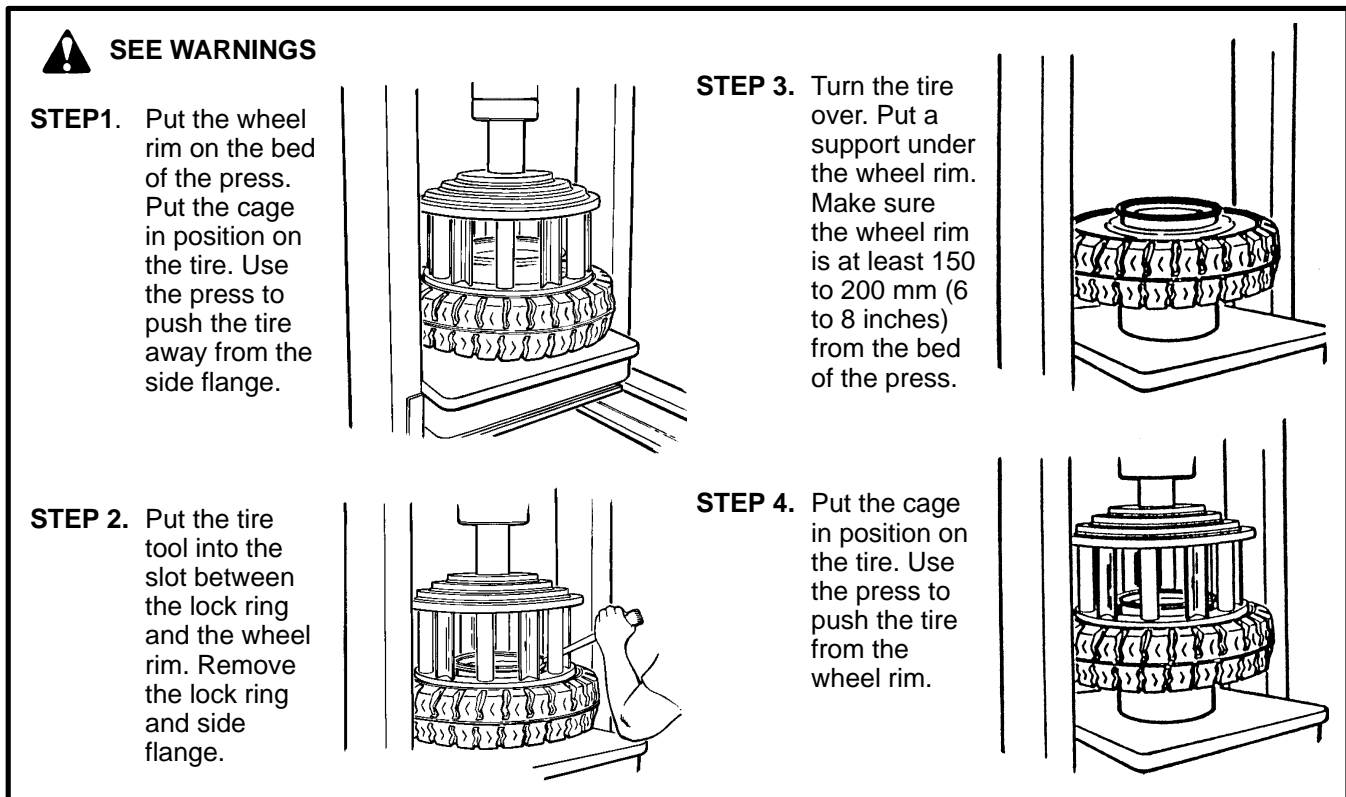

FIGURE 35. REMOVE THE TIRE FROM THE WHEEL
**Remove The Tire From The Wheel (See FIGURE 35.)**